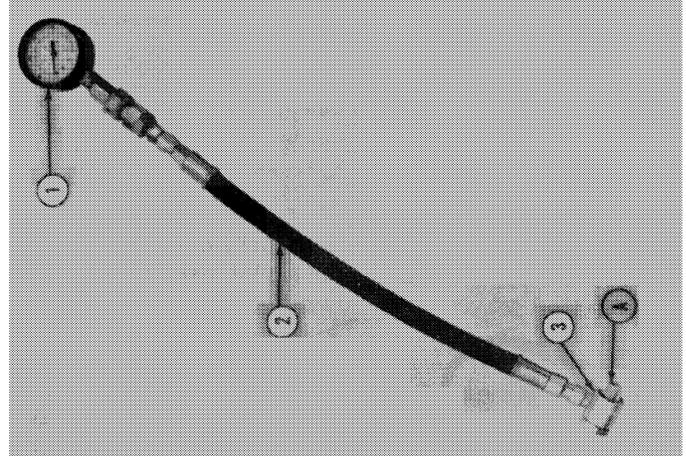

Figure 15
Installation (Refer to A-(1) and A-(2) under Figure 15)
- A-(1) Independent PTO Regulating Valve